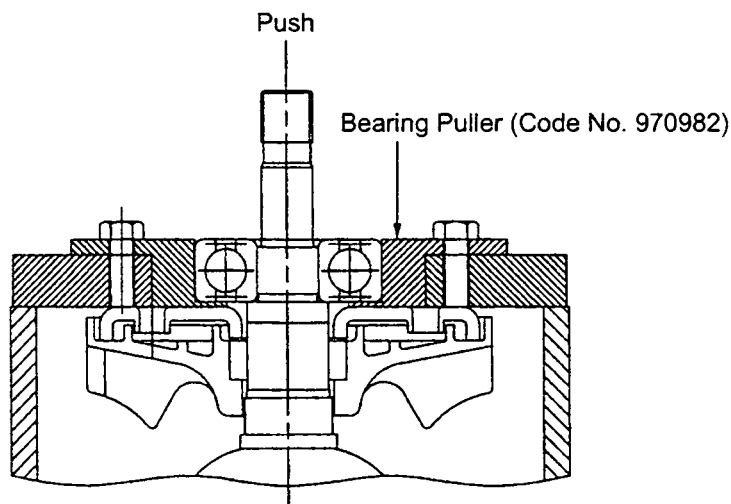

Fig. 11
6. After removing the two Seal Lock Hex. Socket Hd. Bolts M5 x 14 [1] <1>, the Armature [14] <14> can be extracted together with the Bearing Cover (A) [13] <13> and related parts.
8. As illustrated in Fig. 11, the Ball Bearing 6301DDCMPS2L [11] <11> can be removed from the Armature [14] <14> by utilizing the J-204 Bearing Puller (special repair tool, Code No. 970982). After the ball bearing has been removed, Bearing Cover (A) [13] <13> can be easily taken off.